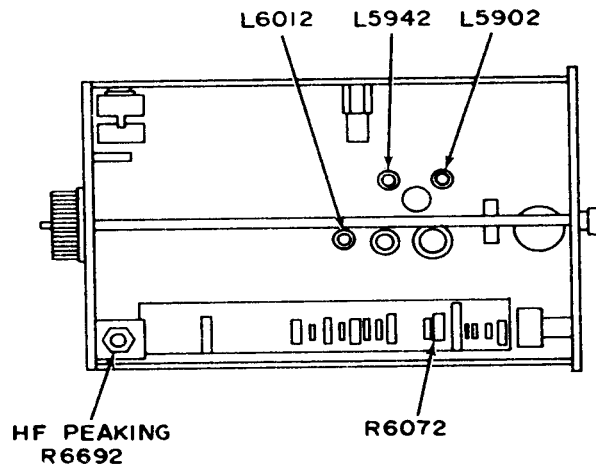
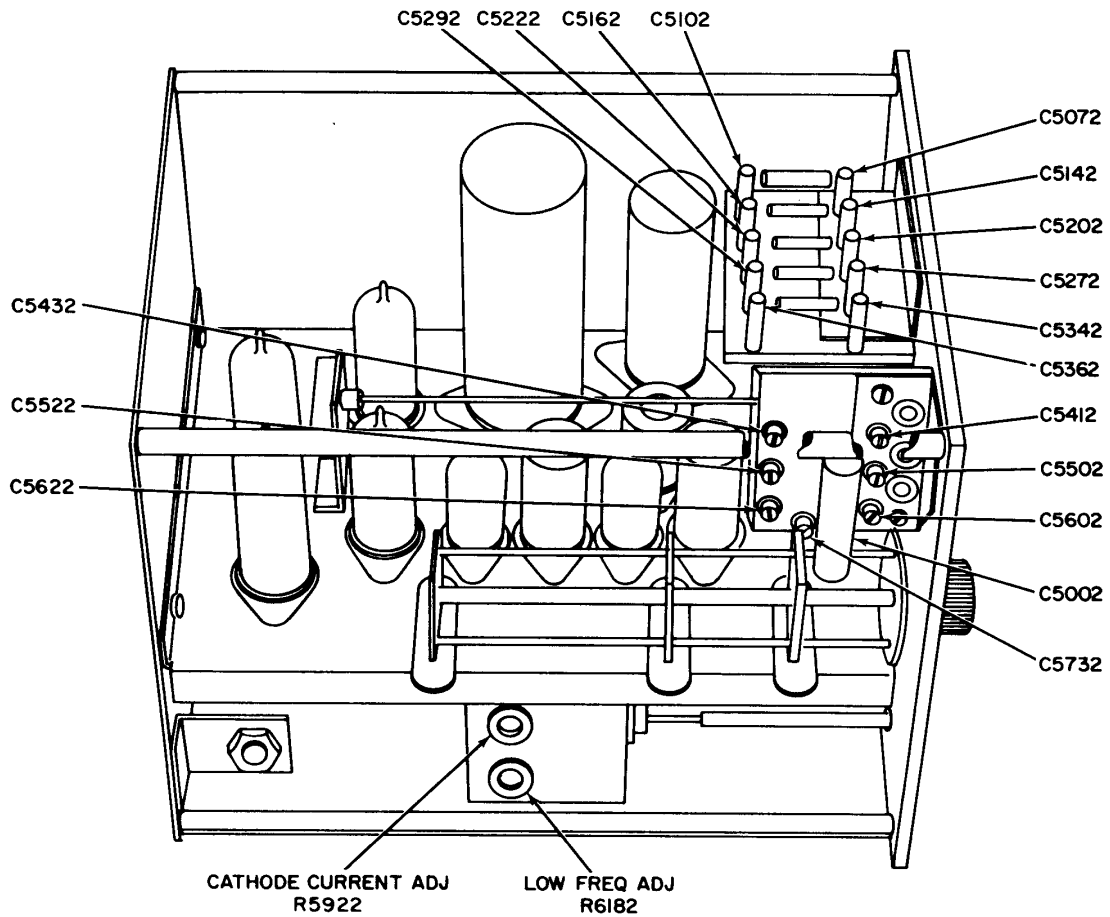

Figure 1. Plug-in unit - bottom interior view.
Figure 2. Plug-in unit - bottom interior view.
- (1) Remove TI from oscilloscope (A3) and reconnect, using plug-in extender (B5).
- (2) Connect dc voltmeter (A4) across R6072 (fig. 1), using cables supplied with dc voltmeter. Dc voltmeter will indicate between 54.45 and 55.55 volts dc. If not, perform **b** below.
- (3) Remove plug-in extender and reinstall TI in oscilloscope.
**b. Adjustments.** Adjust CATHODE CURRENT ADJ R5922 (fig. 2) for 55 volts dc as indicated on dc voltmeter.
VOLTS/CM switch setting	Adjustments (fig 2)
(3) Adjust square-wave generator for a 1-kHz output and for a convenient display on oscilloscope (A3) crt.
(4) Adjust capacitor standard for optimum square-wave display on crt. If capacitor range is insufficient, adjust C5732 (fig. 2) to midrange and readjust capacitor standard.
(5) Turn TI VOLTS/CM switch to positions listed in table 5. Flat-top square wave will be displayed. If not, perform adjustments listed in table 5.
(1) Turn oscilloscope (A3) TIME/CM switch to 10 MILLISEC.
(2) Turn TI AC-DC switch to X10 GAIN AC and VOLTS/CM switch to .005.
(3) Adjust output of square-wave generator (A2) for 50 Hz and amplitude control for a 3-cm deflection on oscilloscope crt. Waveform displayed will have flat tops. If not, perform **b** below.
**b. Adjustments.** Adjust LOW FREQ ADJ R6182 (fig. 2) for square waves with flat tops.
(1) Turn oscilloscope (A3) TIME/CM switch to .5  $\mu$ SEC.
(2) Turn TI AC-DC switch to DC and VOLTS/CM switch to .05.
(3) Adjust square-wave generator (A2) output for approximately 500 kHz and amplitude control for a 3-cm vertical deflection on oscilloscope crt. Oscilloscope will display square waveform with no overshoot. If not, perform **b** below.
**b. Adjustments.** Adjust HF PEAKING R6692 (fig. 1) for square wave with no overshoot.
(1) Turn TI AC-DC switch to X10 GAIN AC.
(2) Adjust output of square-wave generator (A2) to 450 kHz and amplitude control for a 3-cm deflection on oscilloscope (A3). Oscilloscope will display square-cornered waveform with no overshoot. If not, perform **b** below.
**b. Adjustments.** Adjust L5902, L5942, and L6012 (fig. 1) for square leading corner on displayed waveform with fastest rise time, but no overshoot.